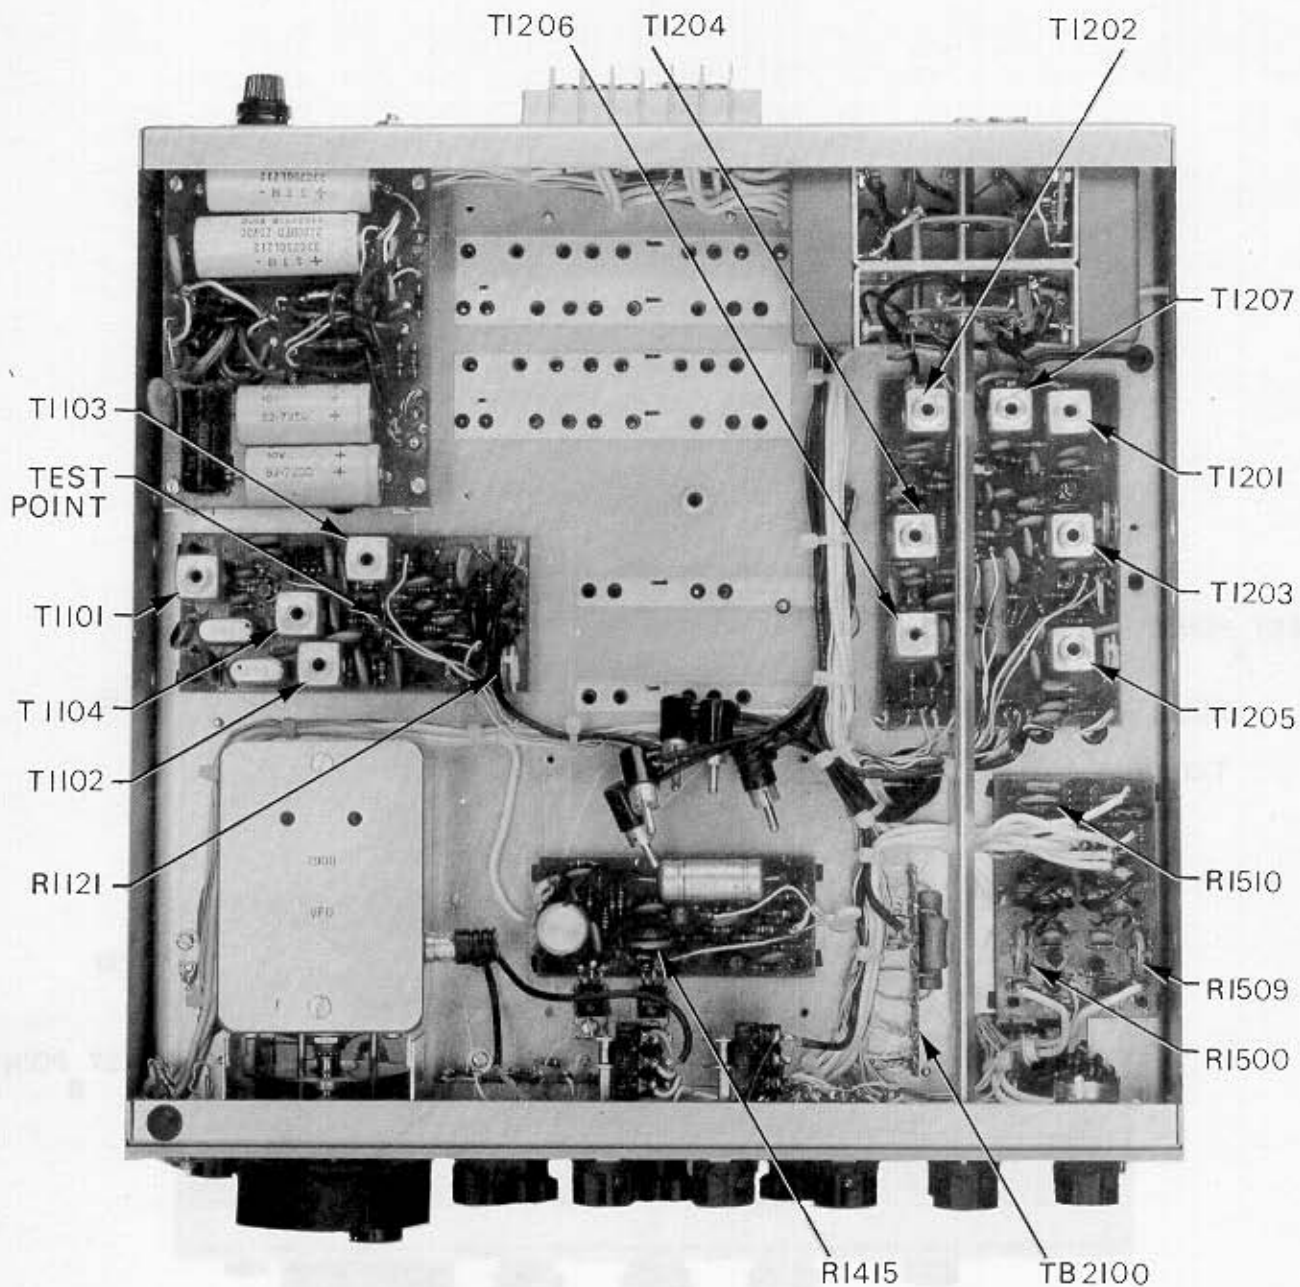

Figure 5-6. Bottom View with Covers Removed
- c. Refer to figure 5-6. Adjust the potentiometer R1510 for an audio zero beat.
- d. Refer to figure 5-6. Facing the variable resistor R1415 from the right side of the receiver, rotate the adjusting ring full clockwise; then rotate the adjusting ring counterclockwise until crossover distortion just disappears on the oscilloscope.